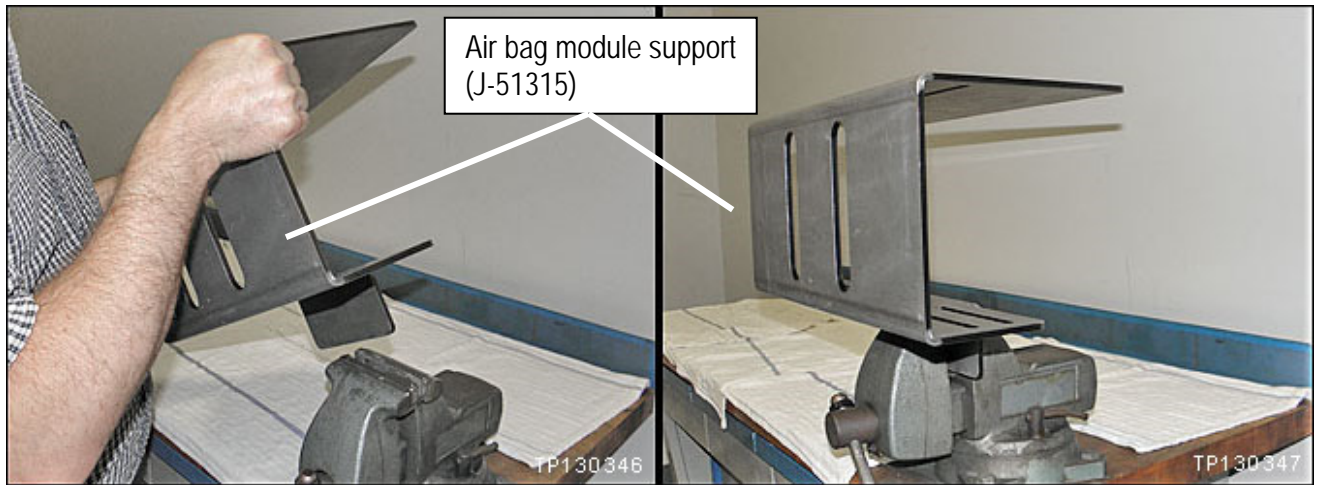

Figure 8
- Securely mount the air bag module support (support) in a vice (see Figure 8).